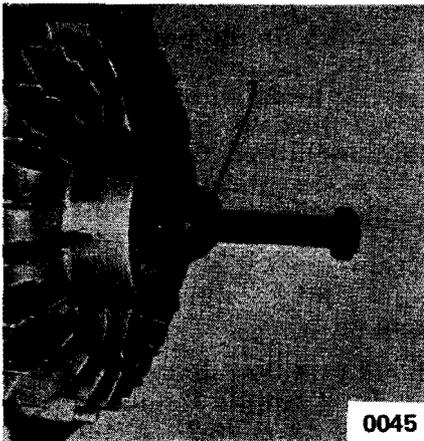

FIG. 3
Unscrew recoil starter. Remove dust seal from carrier. Remove carrier and shims. Take off starter pulley. Unscrew nut on crankshaft. Attach extractor (1) to fan and remove it (Fig. 3). Remove air-path from cylinder. Remove external ignition coil and fan cover.